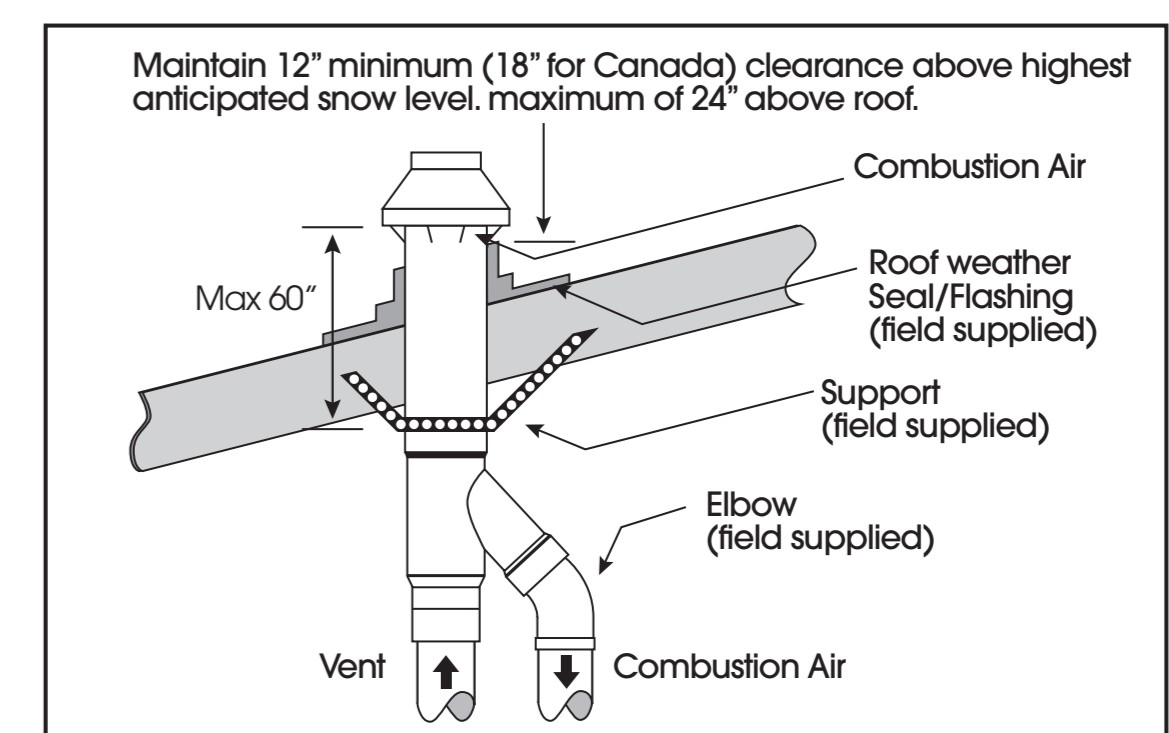

Figure 3—Typical Roof Install
7. Secure to roof (Figure 3) using metal strapping or equivalent support material (user supplied).
9. Cement furnace combustion air and vent pipes to Concentric Vent. Refer to Figure 3 for proper pipe attachment.
**NOTE:** If assembly is too short, the 2 pipes supplied in the kit may be replaced by using same diameter, field supplied SDR—26 PVC (D2241) pipe. Do not extend pipes with Schedule 40 PVC or couplings. The additional wall thickness will restrict combustion air and may cause operational problems. Do not extend air inlet pipe more than 60" (Figure 3).